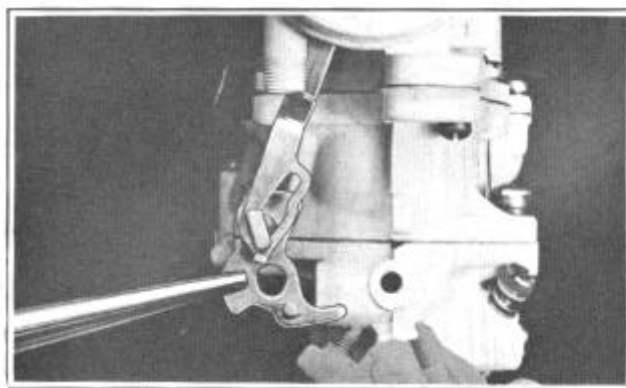

FIGURE 47
29. Install fast idle cam and pin assembly, Figure 47.